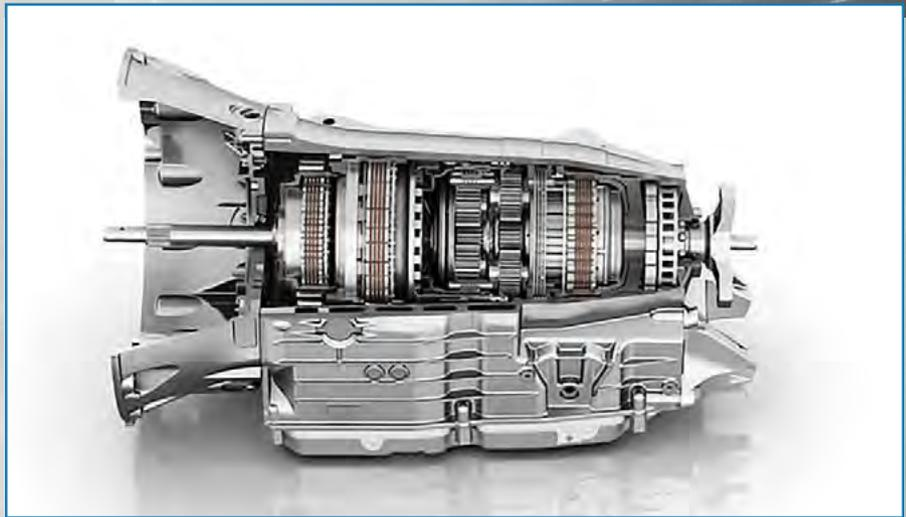

Figure 1: 7 G-Tronic Transmission
**Seven Speeds** — The first new design automatic transmission we're going to discuss is from Mercedes Benz. In 2003, Mercedes Benz introduced the 7G-TRONIC seven-speed automatic transmission (figure 1).